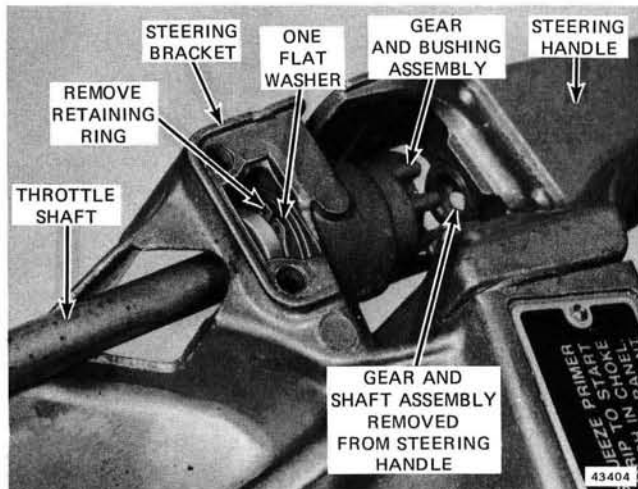

Figure 6-20. Gear and Bushing Assembly
Steering handle need not be removed to service steering grip components. However, it must be disassembled to remove the gear and bushing assembly from steering bracket. See Figure 6-20.
To remove gear and bushing assembly, remove retaining ring and washer. Gear slides out forward. See Figure 6-20.
1. If gear and bushing assembly have been removed from steering bracket, lubricate with OMC Anti-Corrosion Lube and install with washer and retaining ring. See Figure 6-20. The gear aligns with the control shaft by means of two notches in the gear and two knobs on the shaft. See Figure 6-21.